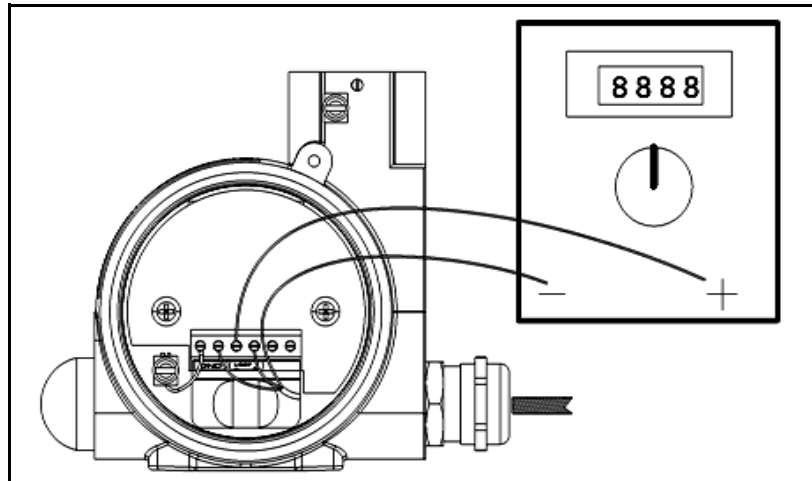

Figure 12: Ammeter Connections
3. Connect the ammeter into the loop as shown in Figure 12 below.